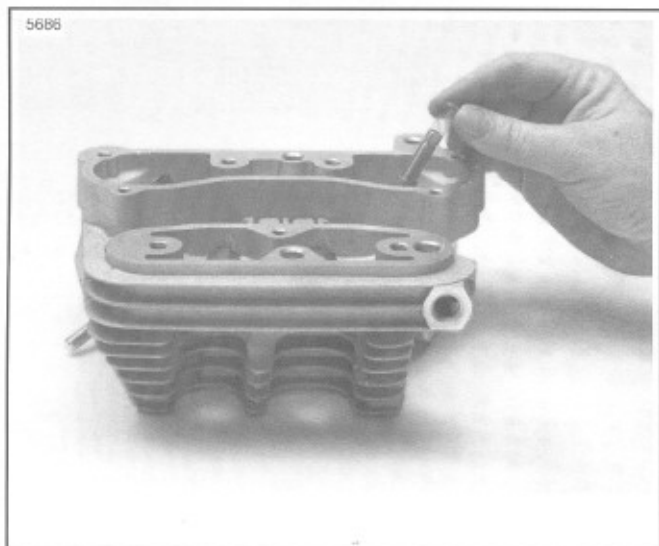

Figure 3-24. Valve Guide Seal Protector Sleeve
6. See Figure 3-24. Place a protective sleeve over the valve stem keeper groove. Coat the sleeve with oil and place a new seal over the valve stem.